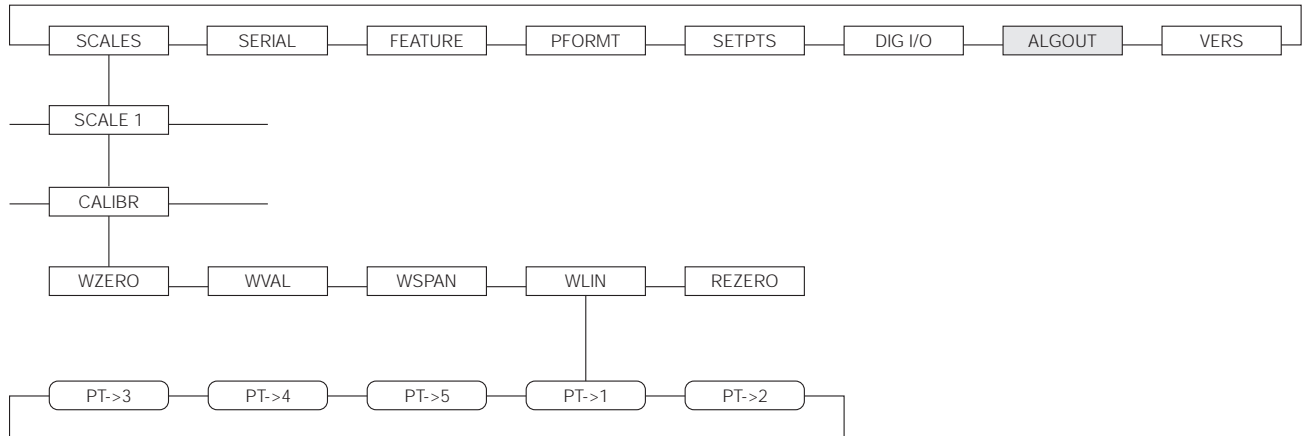
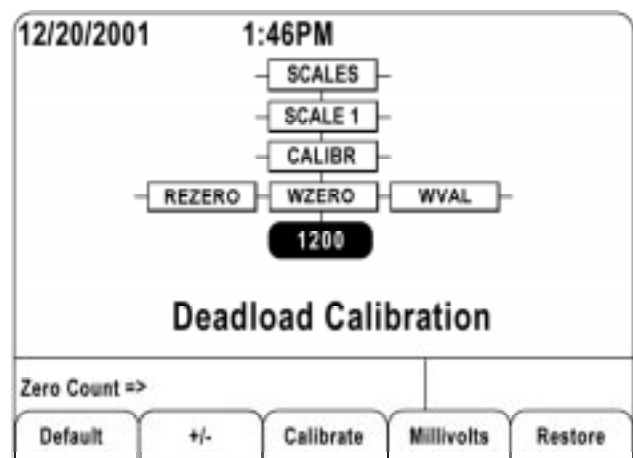

Figure 4-1. Calibration (CALIBR) Submenu
Figure 4-2. WZERO Calibration Display
The CALIBR submenu (under the SCALES menu, see Figure 4-2) is used to calibrate the *920i*. The zero, span, and linear calibration point displays provide a set of softkeys used specifically for calibration procedures:
2. With the *SCALES* menu highlighted, press the **down** key, then select the scale to be calibrated. Press **down** again (*GRADS* parameter highlighted), then press **left** to highlight the *CALIBR* submenu (see Figure 4-1). Press **down** to go to zero calibration (*WZERO*). See Figure 4-2 on page 40.